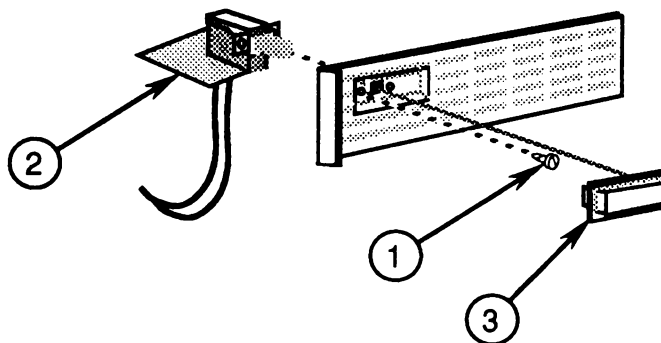

FIGURE 30
- a) Replace the screw (Figure 30, #1) that secures the on/off switch to the plastic bracket. The small switch PCB (Figure 30, #2) is on the bottom as you insert the switch unit into the plastic bracket.
- b) Replace the customer's switch button (Figure 30, #3) on its shaft.